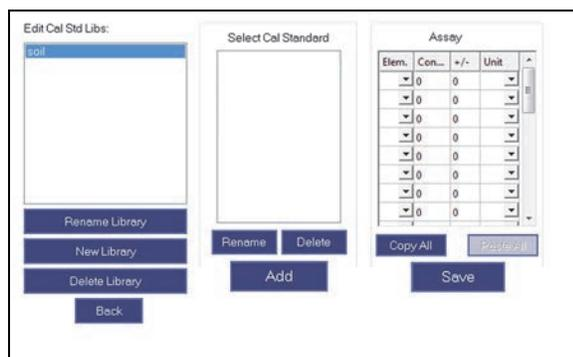

Figure 6-4 A selected library name
1. Select a library name in the **Edit Cal Std Libs** list (see Figure 6-4 on page 85).